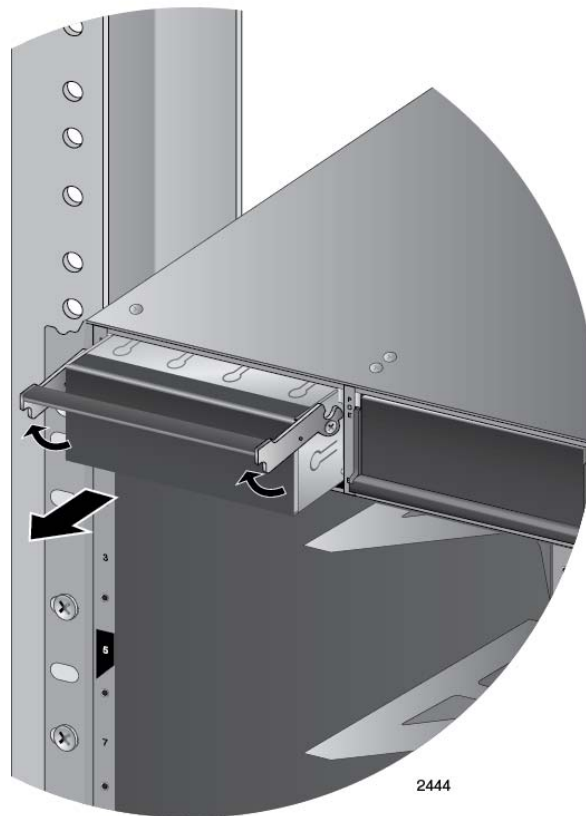

Figure 49. Removing the Blank Slot Cover from Power Supply Slot A
2. Raise the handle on the blank panel covering the selected slot and slide the panel from the chassis. Figure 49 on page 114 illustrates the removal of the blank panel from slot A.